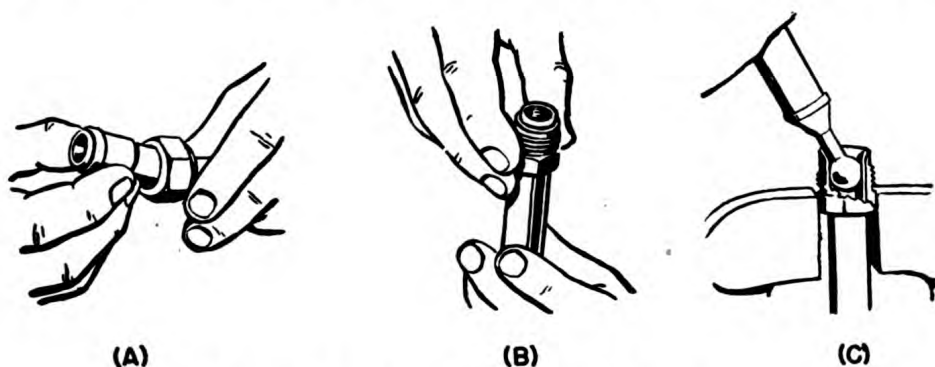

Figure 213.—Ball type flaring tool.
Figure 213 shows how a ball type flaring tool is used. Drawings (A) and (B) show the nut and sleeve being slipped over the end of the tube. Drawing (C) shows how the flaring tool spreads the end of the tubing.